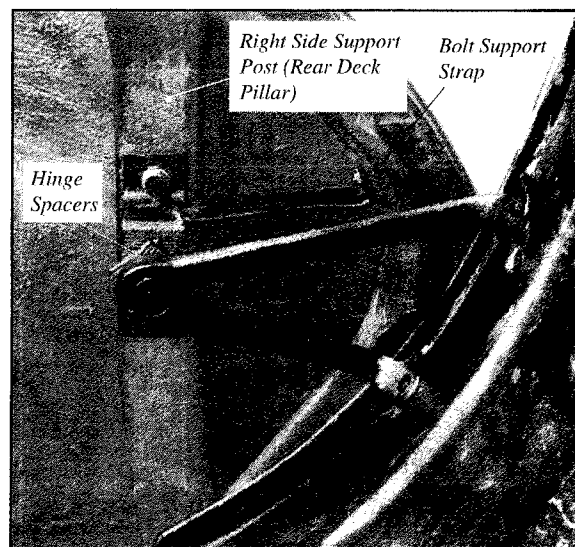

Figure 4-214 - Right Side Installation
16. Bolt the attached Support Strap to the rear rain gutter using a 1/4-20 bolt, lock washer, and nut. Insert the bolt through the rain gutter with the lock washer and nut on the outside against the support strap lip (Figure 4-214).
18. Screw the right side Deck Hinge to the right side of the Deck Lid, using six (6) dome head machine screws. The longer arm of the hinge will be toward the top side of the Deck Lid (Figure 4-214).
20. Set the Deck Lid in place and insert the Hinge Bolt with two hinge spacers placed between the Deck Lid Hinge and the post bracket (Figure 4-214). Tighten both hinge bolt nuts and close the Deck Lid to check alignment. The Post Bracket has a large hole for the hinge bolt. This allows movement of the hinge bolt within the post bracket for final adjustment of Deck Lid to the Body.